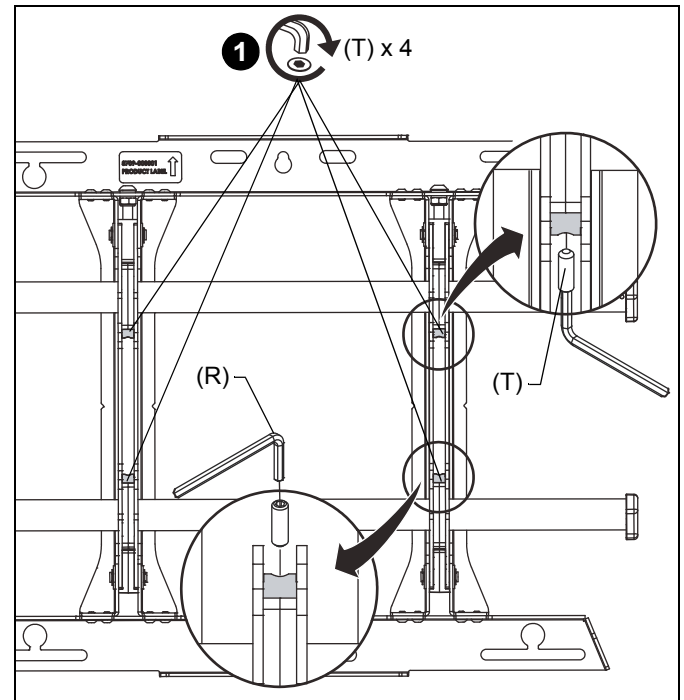

Figure 4
1. Lock rails into place using four 1/4-20 x 3/4" set screws (T) on mount (Z) and the 1/8" hex key (R). (See Figure 4)